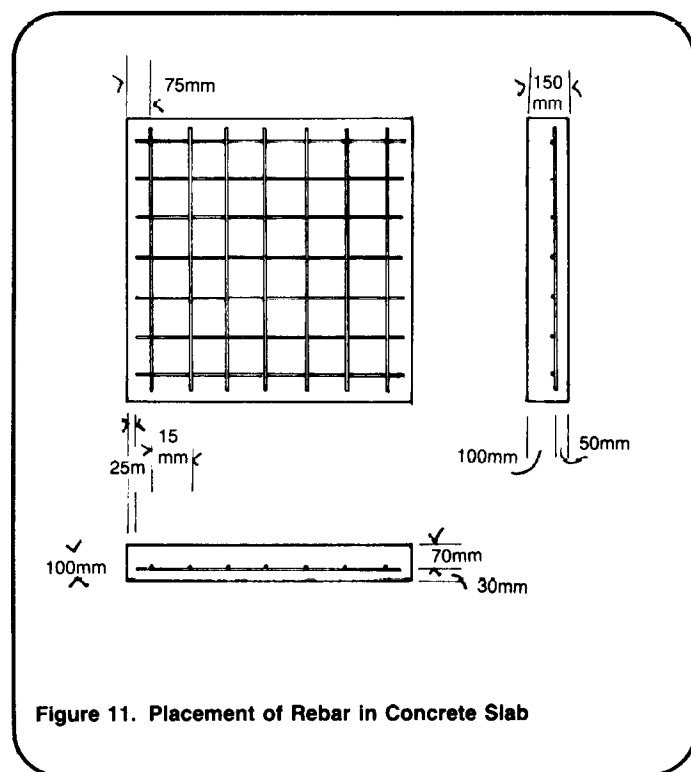

Figure 11. Placement of Rebar in Concrete Slab
4. Place reinforcing rod in the forms as shown in Figure 11. The rod should be placed two-thirds the distance from the side receiving the weight of the water.